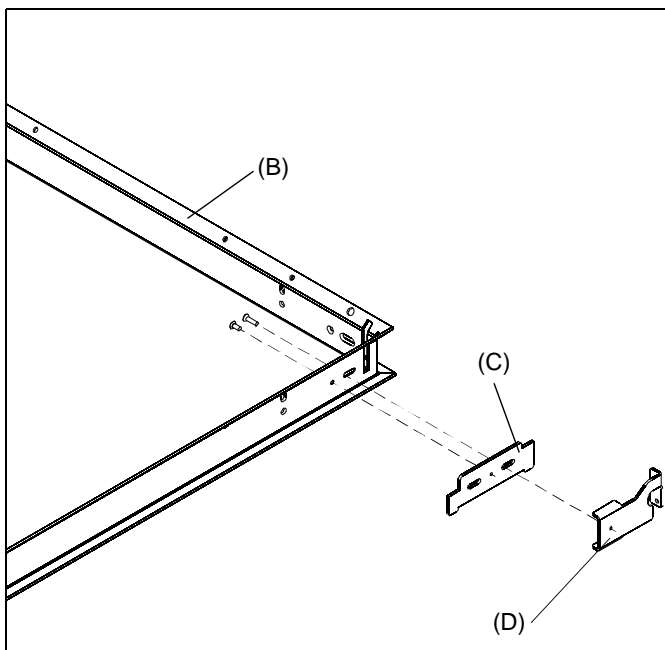

Figure 1
**NOTE:** Addition of the vertical bracket (C) is optional. The vertical bracket is used to allow vertical adjustment into the ceiling if a ceiling tile is attached to the bottom of the SL220.
1. **OPTIONAL:** Attach vertical brackets (C) to both sides (in each corner) of the SL220 frame (B) using a 06-32 x 5/16" Phillips flat head screw (F). (See Figure 1)
2. Attach horizontal bracket (D) over the vertical bracket (C) at each corner of the SL220 frame using a 06-32 x 1/2" Phillips flat head screw (E). (See Figure 1)